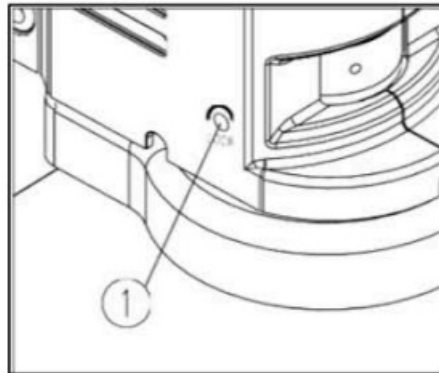

Fig.9
Observe the output image until it is clear. (See Fig.9)
If use a fixed magnification for long term or use with shake, tighten and fix the magnification lock-screw (1) with a M4 inner hexagon spanner (side length 3mm). (See Fig. 9)